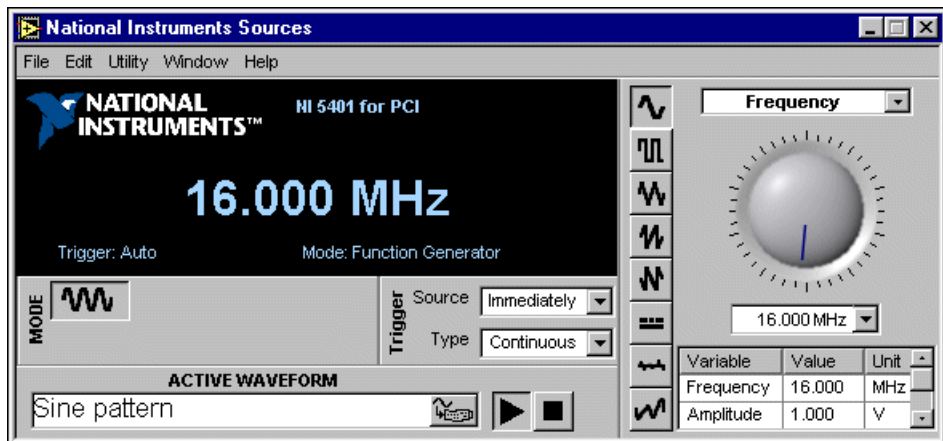

Figure 1-6. Sources Soft Front Panel in DDS Output Mode
If you need to generate standard waveforms such as a sine, square, ramp, or DC signal, you can use the Sources Soft Front Panel in the operation mode as shown in Figure 1-6. Launch the front panel from the task menu. You use this front panel to control the frequency, amplitude, offset, and type of waveform generated. For the NI 5401, the maximum sine frequency you can generate is 16 MHz. The maximum amplitude is 5 V_{pk} into a 50 Ω load.
4. Click **Finish** to download the waveform to onboard memory and return to the screen shown in Figure 1-6.